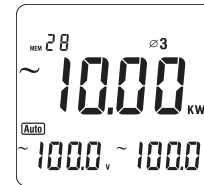

Figure 11
- After sum up the current power measurement value of the second phase, then press **SELECT** again to choose the third phase $\varnothing 3$, as figure 11.